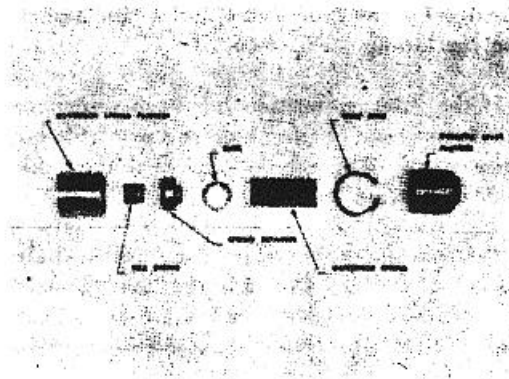

Figure 4-64. Variable speed governor spring assembly.
8. VARIABLE SPEED GOVERNOR: a. Install the governor plunger, idle spring, spring retainer, snap-ring, governor spring and throttle lever plunger in the spring pack housing. Fig. 4-64. Shims may be added under the governor spring during pump testing.